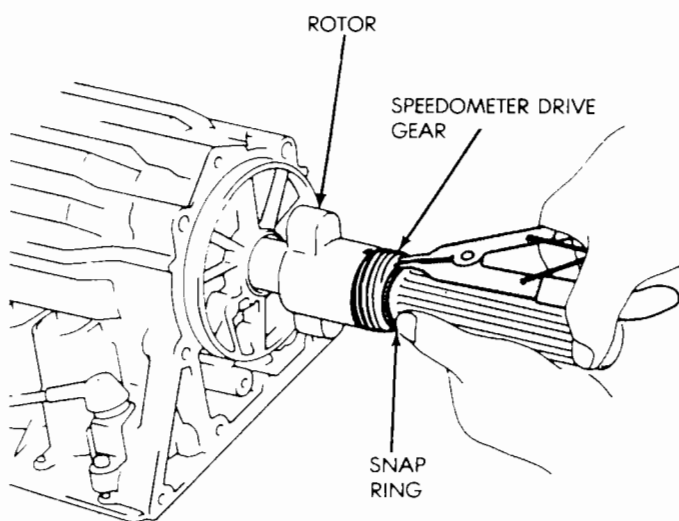

Fig. 42 Removing/Installation Speedometer Drive Gear
- (1) Raise vehicle.
- (2) Remove components necessary to gain access to rotor and drive gear (e.g. propeller shaft, transfer case, crossmember, shift linkage).
- (3) Disconnect speedometer cable and/or speed sensor.
- (4) Remove extension or adaptor housing.
- (5) Remove speedometer drive gear snap ring (Fig. 42).
- (6) Remove the speedometer drive gear and spacer (if equipped).
- (1) Install rotor, spacer (if equipped) and drive gear on output shaft. Then install drive gear snap ring (Fig. 42).
- (2) Apply bead of Three-Bond TB 1281 or equivalent RTV sealer, to transmission case sealing surface and install extension/adaptor housing on case.
- (3) Tighten extension/adaptor housing bolts to 34 N•m (25 ft-lbs) torque.
- (4) Install components removed to gain access to rotor and drive gear.